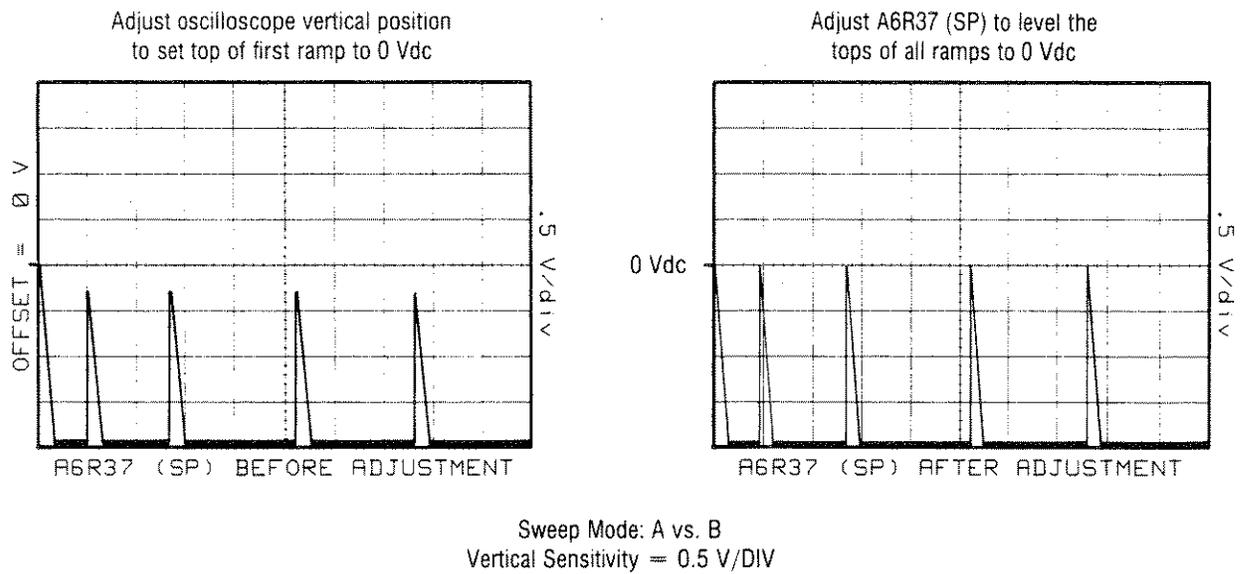

Figure 5-4. Sweep Control Adjustment Waveforms
25. Adjust the oscilloscope vertical position control to set the top of the first full 0 to -10 volt sweep ramp on the center line as shown in figure 5-4.
26. Adjust A6R37 (SP) to bring the tops of the remaining 0 to -10 volt sweep ramps to the center graticule as shown in figure 5-4.